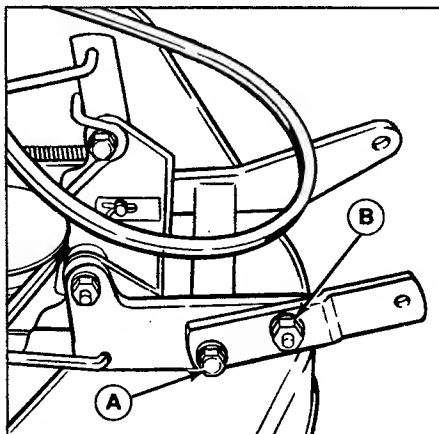

Figure 32. Mower Hitch (shown removed from tractor)
- Loosen the capscrew and flange nut in right mower hitch (figure 32).
- Retighten the capscrew (A, figure 32) and flange nut (B). Torque capscrew (A) to 50 ft. lbs. Torque nut (B) to 65 ft. lbs. *If torque wrench is not available, tighten snug*